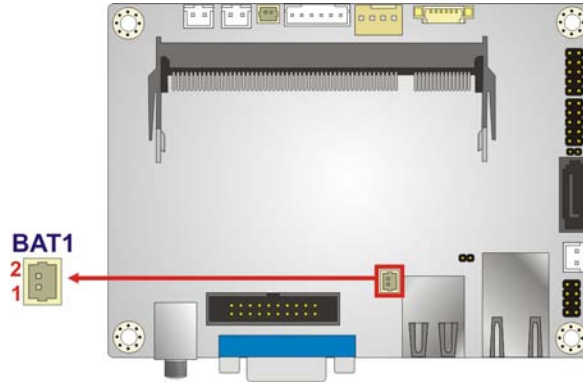

Figure 4-4: Battery Connector Location
- CN Location: See **Figure 4-4**